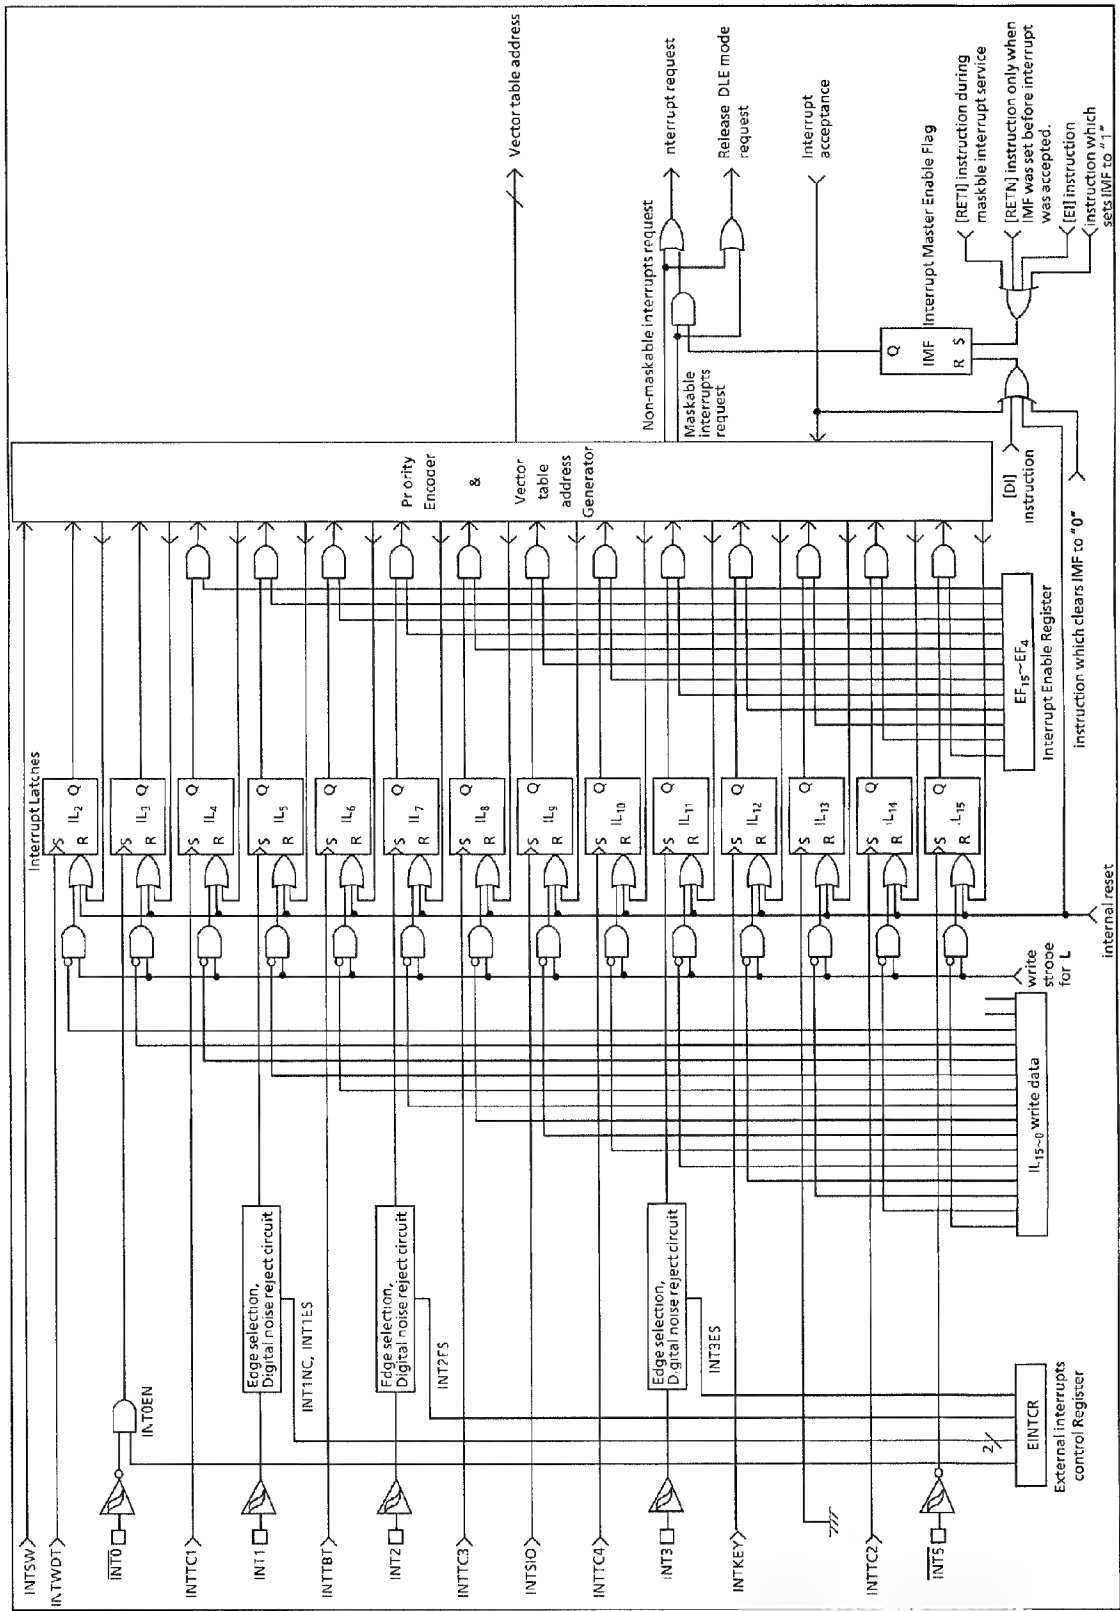

Figure 1-22. Interrupt Controller Block Diagram
The interrupt latch is set to "1" when an interrupt request is generated and requests the CPU to accept the interrupt. The acceptance of maskable interrupts can be selectively enabled and disabled by the program using the interrupt master enable flag (IMF) and the individual interrupt enable flags (EF). When two or more interrupts are generated simultaneously, the interrupt is accepted in the highest priority order as determined by the hardware. Figure 1-22 shows the interrupt controller.